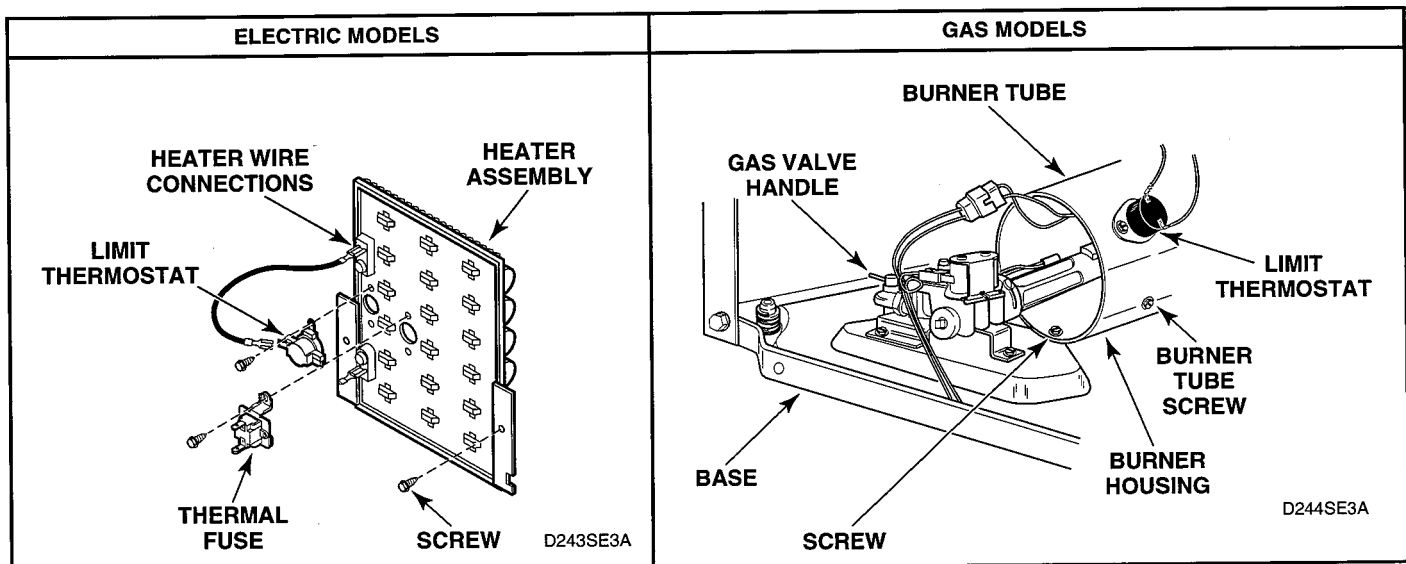

Figure 5-11
1. Remove one screw from right side of burner housing holding burner tube in place. See figure 5-11.
- Remove screw from right side of burner housing, while holding burner tube in place. See figure 5-11.
- Remove screw holding front of burner housing to dryer base and remove housing out through front of dryer. See figure 5-11.
- Disconnect wires and remove screws attaching limit thermostat to burner housing or element plate. See figure 5-11.
- Remove two screws holding element and plate to heater box and pull element down and away from heater box. See figure 5-11.
- Disconnect wires from element and plate. See figure 5-11.
- Remove screws holding element and plate. See figure 5-11.
- Disconnect wires from thermostat/thermistor and heater. See figure 5-11.